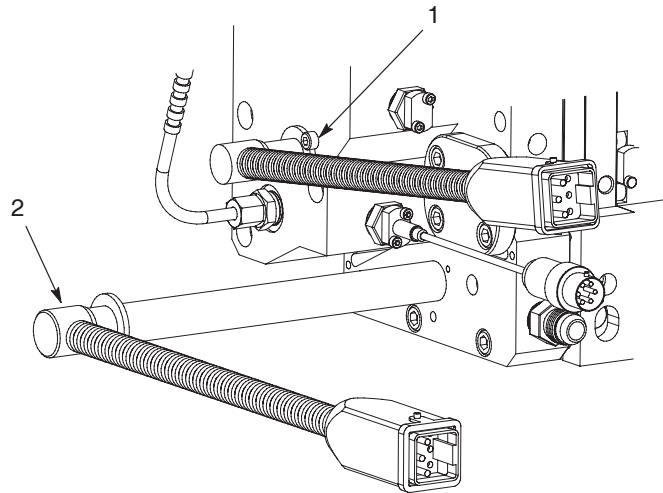

Figure 7-41 Removing a heater
1. See Figure 7-41. Using an M3 hex wrench, remove the bolts that secure the heaters and then carefully remove the heaters.